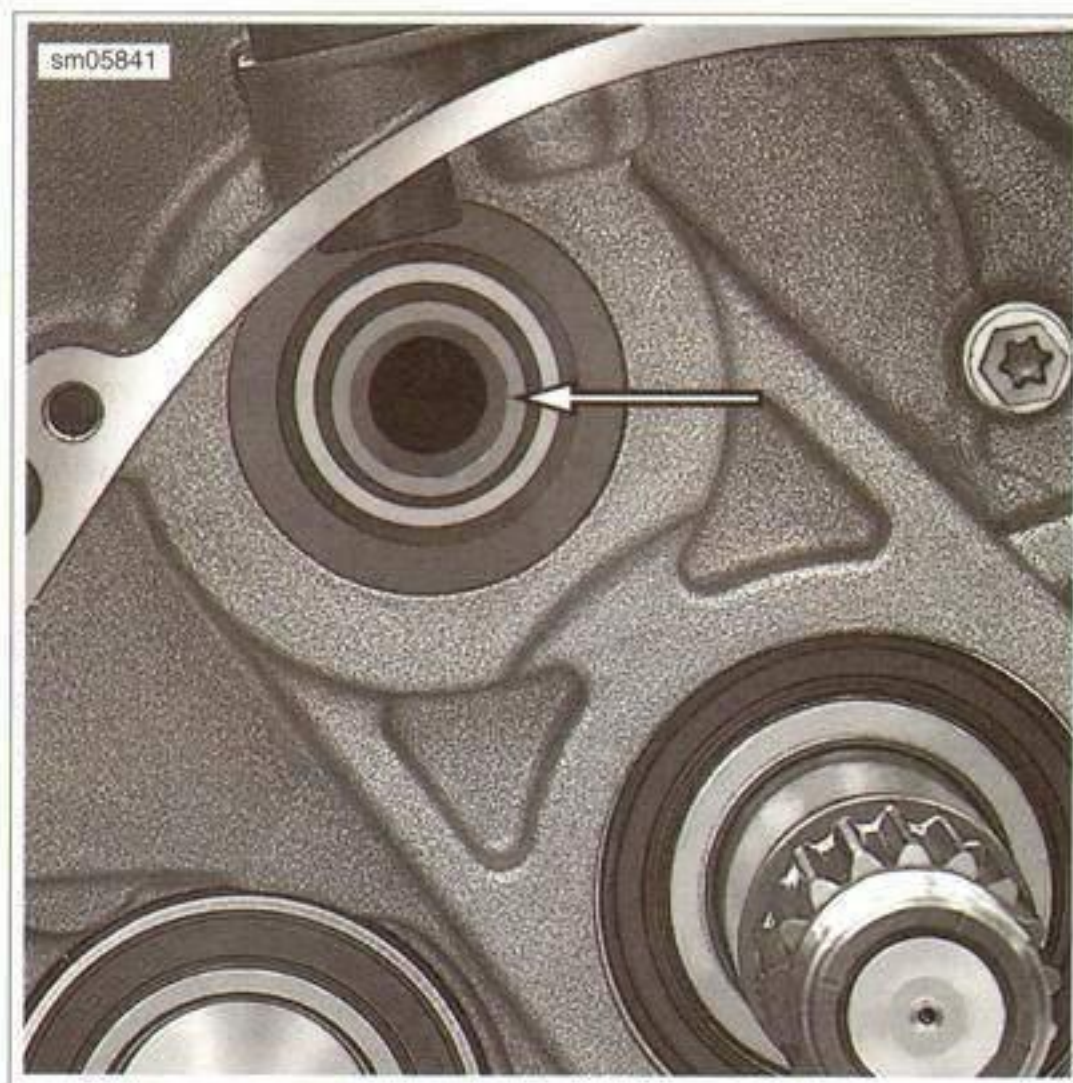

Figure 6-72. Mainshaft/VSS Trigger Wheel Location
1. See Figure 6-72. Position trigger wheel on ball bearing in crankcase.